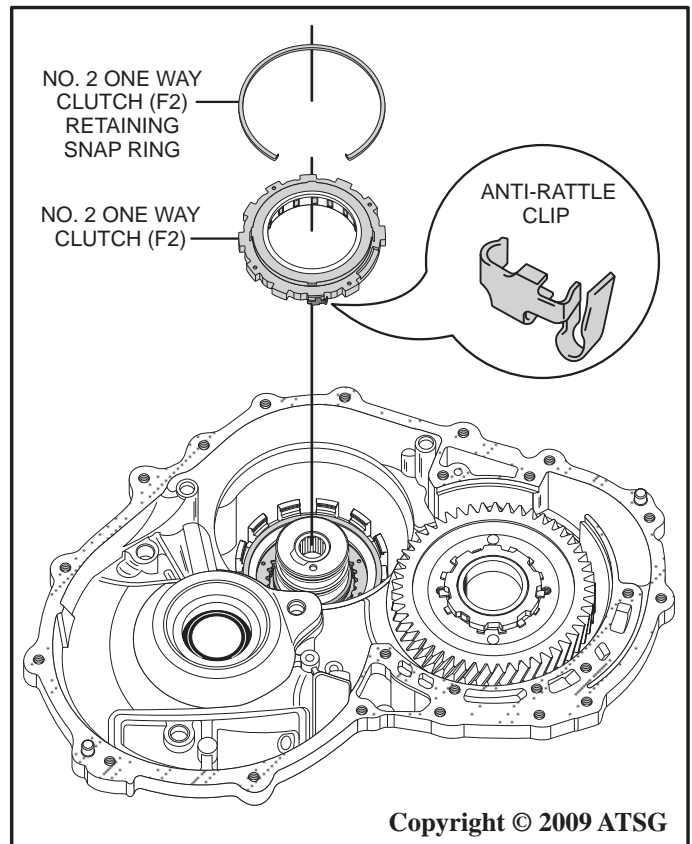

Figure 39
53. Using a screwdriver, remove the no. 2 one way clutch (F2) retaining snap ring as shown in Figure 39.
54. Remove the no. 2 one way clutch (F2) assembly from the case by lifting straight up as shown in Figure 39.
55. Remove the anti-rattle clip from the no. 2 one way clutch (F2) as shown in Figure 39.